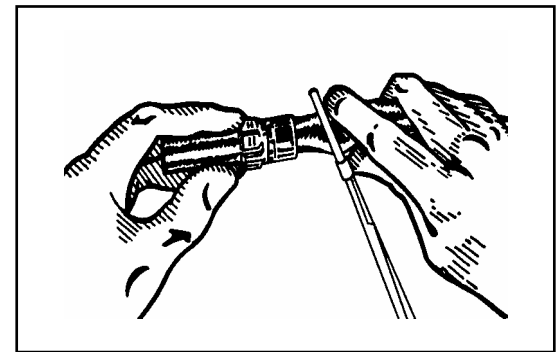

Figure 3
4. Remove bullet tip and slide cannula restraint onto cannula (slotted end facing out). **(Fig.3)**